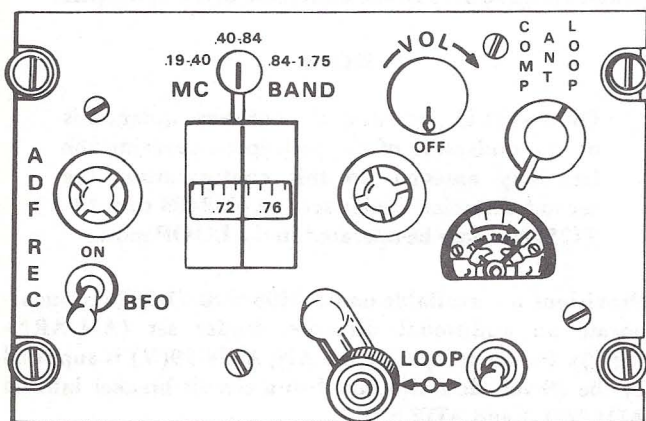

Figure 3-19. Direction Finder Control Panel (AN/ARN-59V)
(On 61-2408 thru 66-086.) The direction finder set (AN/ARN-59V) is an airborne radio compass system that automatically provides a visual indication of the direction from which radio signal is received. It provides for aural reception of signals in the 190 to 1,750 kilohertz (khz) frequency range in three selectable bands. Audio output from the AN/ARN-59(V) is amplified thru the interphone control panels (INT). The AN/ARN-59(V) system consists of a receiver on the avionic shelves, a control panel (figure 3-19) on the console and a sense antenna and loop antenna (4 and 5, figure 3-5) on the underside of the helicopter.
3-55. Controls and Function, Direction Finder Set (AN/ARN-59V) (See figure 3-19.)
The gyrosyn compass indicator (ID-998/ASN) (figure 3-19) is on the pilot's side of the instrument panel. Refer to paragraph 3-76 for a description of the gyrosyn compass indicator.